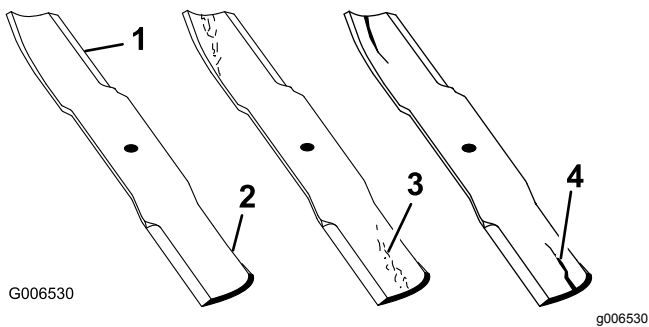

Figure 89
1. Inspect the cutting edges (Figure 89). If the edges are not sharp or have nicks, remove and sharpen the blades. Refer to Sharpening the Blades (page 61).
2. Inspect the blades, especially the curved area (Figure 89). If you notice any damage, wear, or a slot forming in this area (Figure 89), immediately install a new blade.